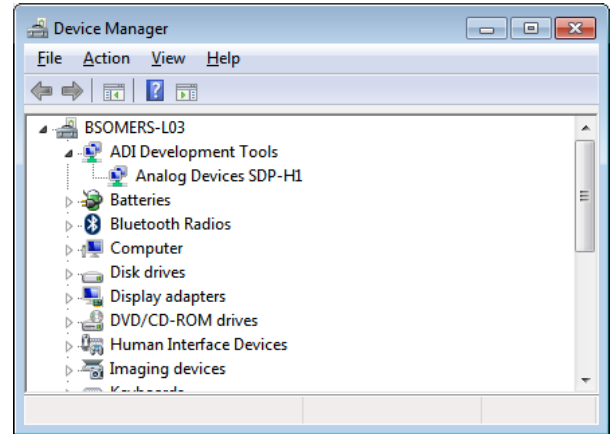

Figure 10. Device Manager Window
2. Navigate to the **Device Manager** window on the PC (see Figure 10).
4. The **Computer Management** window opens. In the list labeled **System Tools**, click **Device Manager**. If the SDP-H1 driver is installed, and the board is properly connected to the PC, **Analog Devices SDP-H1** is shown in the **ADI Development Tools** list in the **Device Manager** window, as shown in Figure 10.